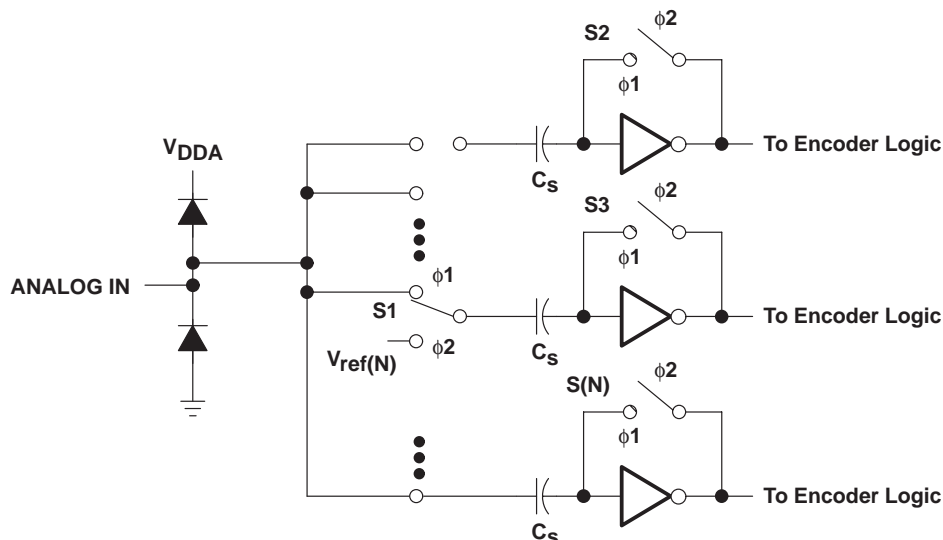

Figure 20. External Connections for Using the Internal Reference Resistor Divider
Figure 20 depicts the analog input for the TLV5510. The switches shown are controlled by two internal clocks, $\phi 1$ and $\phi 2$. These are nonoverlapping clocks that are generated from the CLK input. During the sampling period, $\phi 1$, S1 is closed and the input signal is applied to one side of the sampling capacitor, C_s . Also during the sampling period, S2 through S(N) are closed. This sets the comparator input to approximately 2.5 V. The delta voltage is developed across C_s . During the comparison phase, $\phi 2$, S1 is switched to the appropriate reference voltage for the bit value N, i.e., $V_{ref(N)}$. S2 is opened and $V_{ref(N)} - V_{C_s}$ toggles the comparator output to the appropriate digital 1 or 0. The small resistance values for the switch, S1, and small value of the sampling capacitor combine to produce the wide analog input bandwidth of the TLV5510. The source impedance driving the analog input of the TLV5510 should be less than 100 Ω across the range of input frequency spectrum.